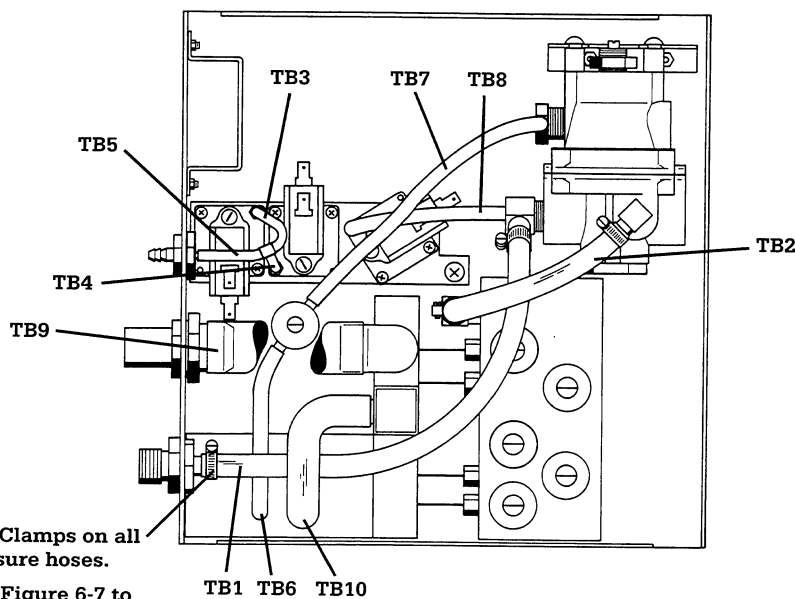

Figure 4-6
4. Refer to Figure 4-6 for hose connections throughout the following procedure.